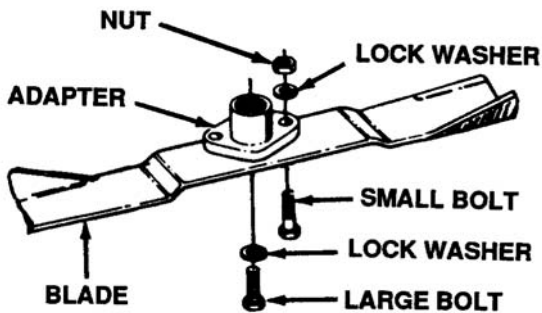

Figure 8-35. Cutting Blade
- c. Remove the two 5/16 inch bolts, lock washers and nuts holding the blade to the adapter. See Figure 8-35.